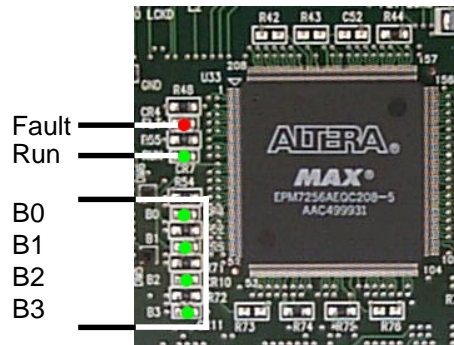

Figure 3-55
3. Verify that all LED's are on for ~1 second during reset. (Figure 3-55)